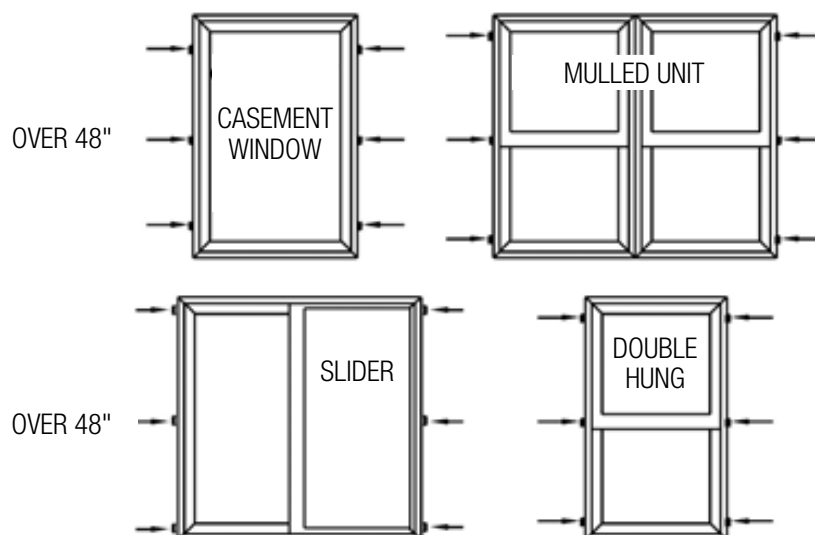

FIG. 14
- J) Check the unit for square using diagonal measurements. Shim window to ensure the unit is square. Casement units over 48" in height must have shims placed at the center to prevent bowing of jambs. Note to use flat shims or pairs of triangle shims to ensure the jamb does not twist. (Fig. 14)
- K) **For double hung units: to ensure proper window operation and performance, it is critical to shim at the check rail to ensure the frame widths are equal at the top, center and bottom of the unit. (Fig. 14)**
- M) Make sure jambs, head and sills are straight. Additional shimming may be required. (Fig. 14)